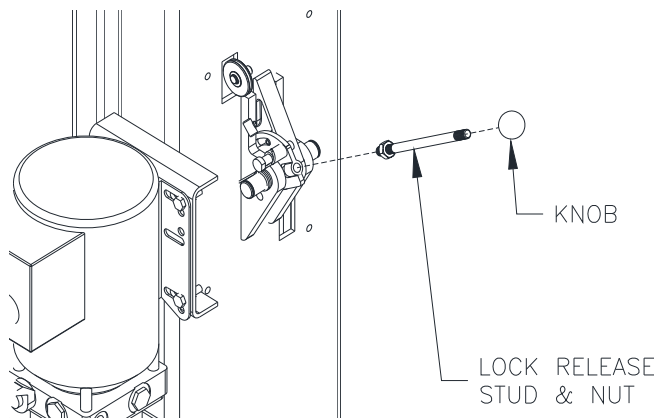

Fig 19– Lock Release Cover
- 36) Attach Lock Release Stud and M10 Hex Jam Nut to Lock Release Cam. See **Fig 19**.